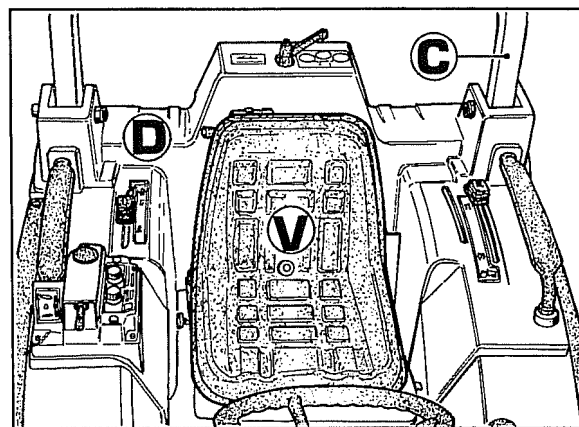

Fig. 29
1. Remove seat **V** Fig.29.
- Remove the **C** and the fibreglass body-piece **D** Fig.29 having removed the various grips, handles and lift control mount.